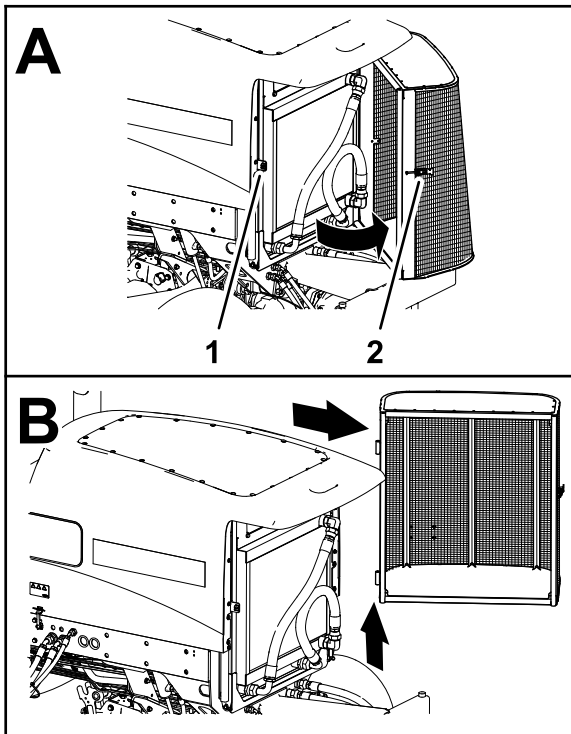

Figure 109
2. Unlatch and open the rear screen (Figure 109).